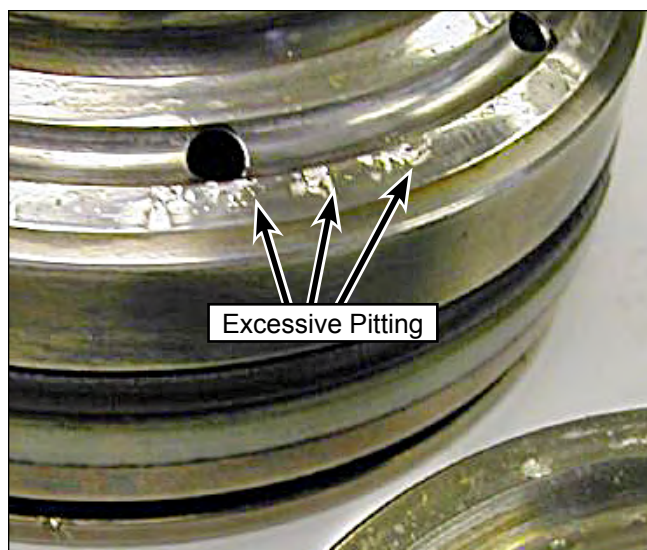

Figure 96: Damaged Valve Characteristics.
2. Inspect the valve components. Discard excessively pitted or otherwise damaged components (Figure 96).